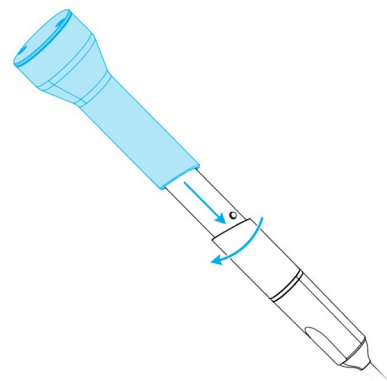

Figure 10: Using the integrity-check sleeve
3. Slide the integrity-check sleeve on the handpiece and rotate clockwise to lock into position (*see Figure 10: Using the integrity-check sleeve, p. 37*).